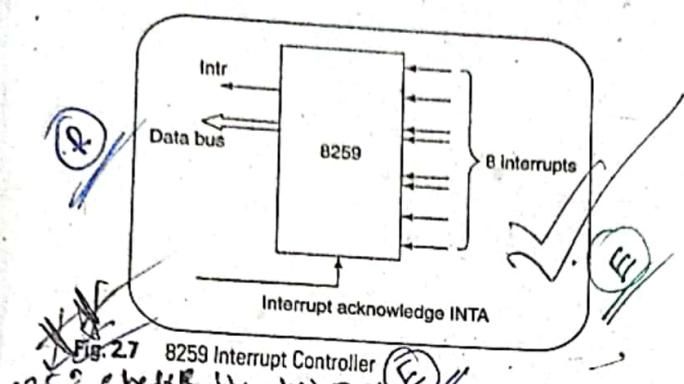

Fig. 2.7 8259 Interrupt Controller
is masked or not. If the current interrupt has higher priority and is unmasked, that interrupt is serviced. For servicing the interrupt, the 8259 will send INTR signal to 8085. In response to this INTR, when 8085 accepts this interrupt, it sends three INTA/signals one by one to 8259. In response to the first, second and third INTA/signals, 8259 supplies CALL opcode, low byte of call address and high byte of call address respectively. When the 8085 receives the CALL opcode and 16-bit address, it saves the program counter contents (PC) in stacks, and loads the CALL address into PC. Consequently, 8085 starts executing the corresponding interrupt service routine. This is how external interrupts are handled. 8259 can be cascaded to accept a maximum of 64 interrupts and can also be used with the 8086 microprocessor. Figure 2.7 shows the 8259 diagram with all the input and output signals.